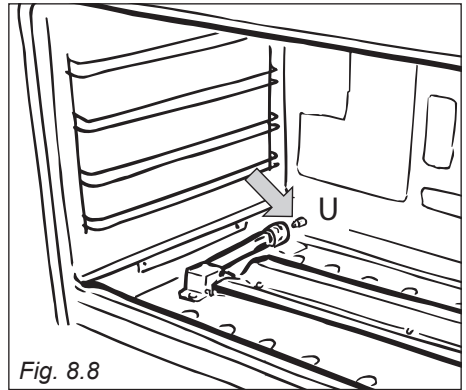

Fig. 8.8
- Using a 10 mm box spanner, unscrew the injector "U" (indicated by the arrow in fig. 8.8) and replace with a new injector selected in accordance with the "Table for the choice of the injectors"; then replace the burner repeating the above steps in reverse order.